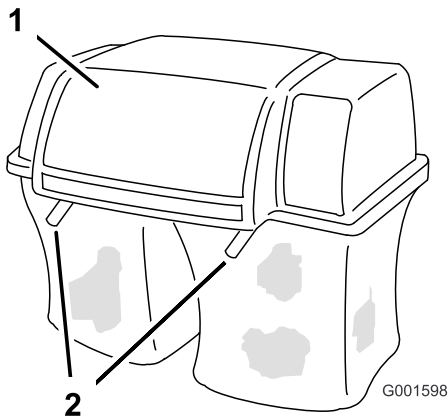

Figure 21
2. Pull up on both bag retainer handles until they unlock from the bag frame (Figure 21). Open (raise) the bagger top.